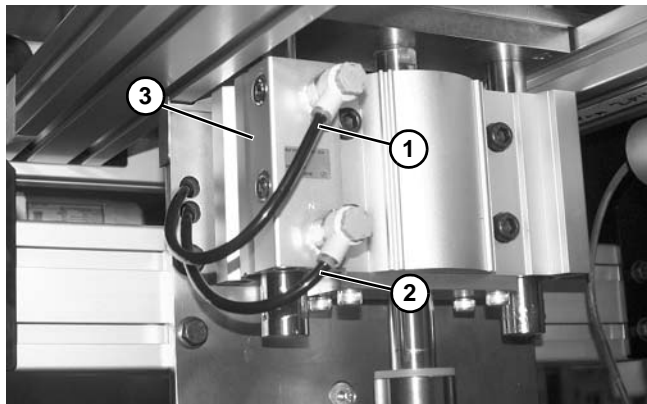

Figure 91
4. Disconnect upper (**Figure 91, item 1**) and lower (**Figure 91, item 2**) hoses from fittings on lift cylinder (**Figure 91, item 3**).